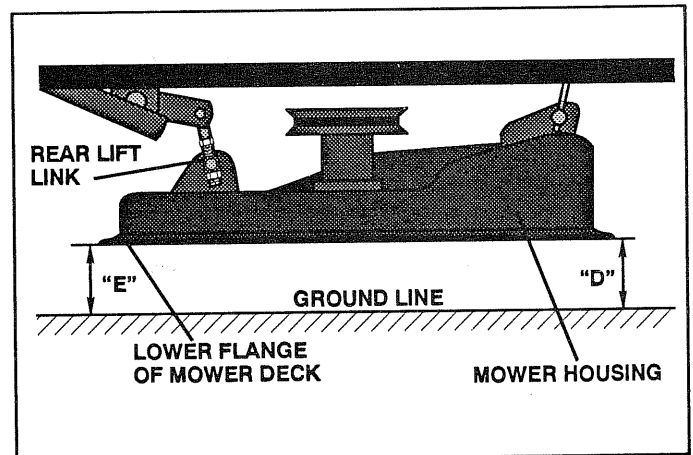
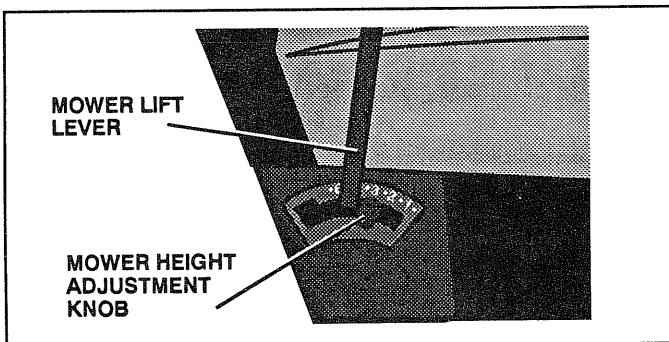

FIG. 22
FIG. 19
TO LEVEL MOWER HOUSING (See Fig. 19 - Fig. 22)
- Place mower height adjustment knob in position "3" (See Fig. 19).